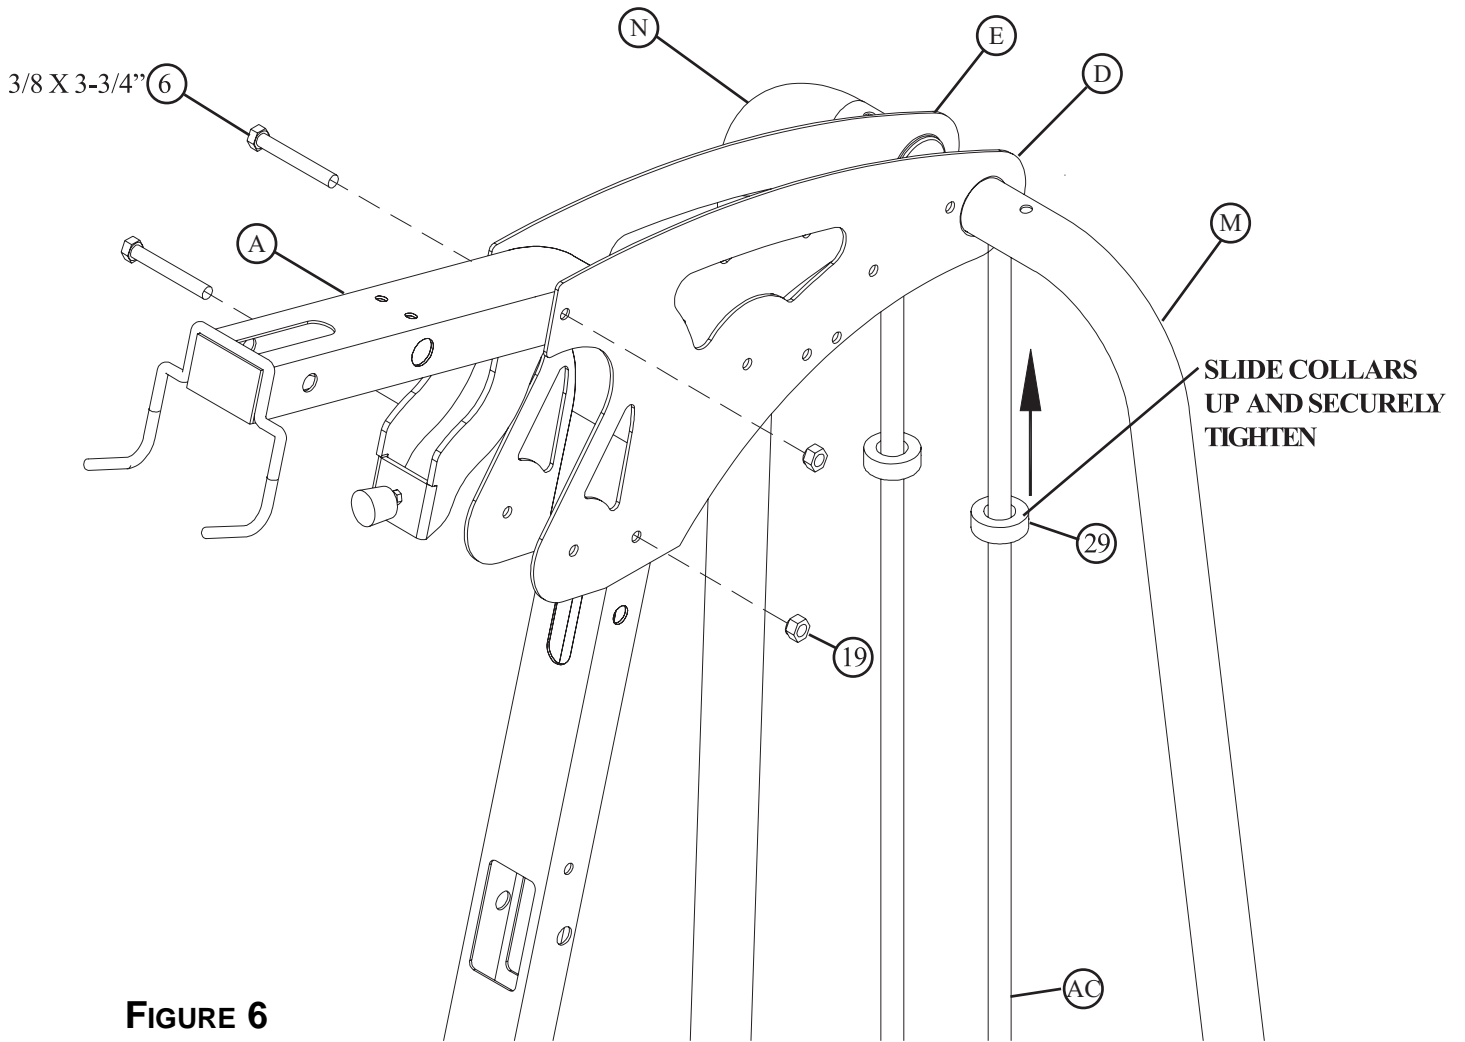

**FIGURE 5**
- Carefully slide the RIGHT (N) and LEFT (M) REAR UPRIGHTS over the GUIDE RODS (AC) as shown in FIGURE 5 and SECURELY assemble the RIGHT (N) and LEFT (M) REAR UPRIGHTS to the BASE (B) using four 3/8 X 3-3/4" BOLTS (6), four 3/8" WASHERS (18) and four 3/8" SILVER LOCK NUTS (19) as shown in FIGURE 5.
- SECURELY assemble the RIGHT (E) and LEFT (D) BOOM PLATES to the RIGHT (N) and LEFT (M) REAR UPRIGHTS using two 3/8 X 3/4" BOLTS W/LOCKTITE (14) as shown in FIGURE 5.